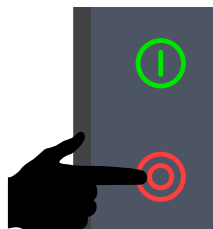

Figure 155. Stop Button
5. After completing fault diagnostics, press the **Stop** button (Figure 155) to exit Diagnostic mode.